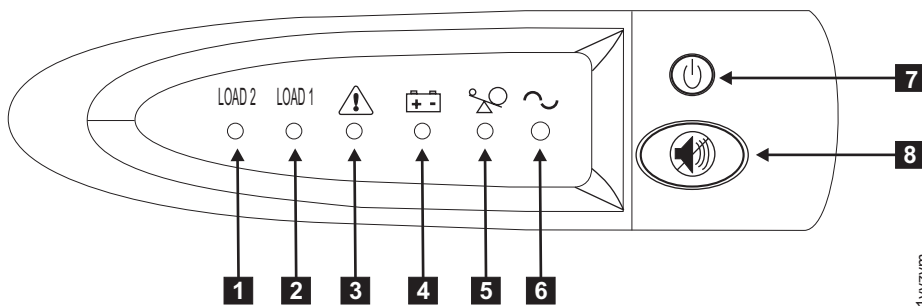

Figure 71. 2145-1U uninterruptible power supply front panel assembly
8. Press and hold the on/off button (**7** in Figure 71) for approximately five seconds. You might need a pointed device, such as a screwdriver, to press the on/off button. The front panel indicators cycle through a startup sequence while the 2145-1U uninterruptible power supply conducts a self-test.